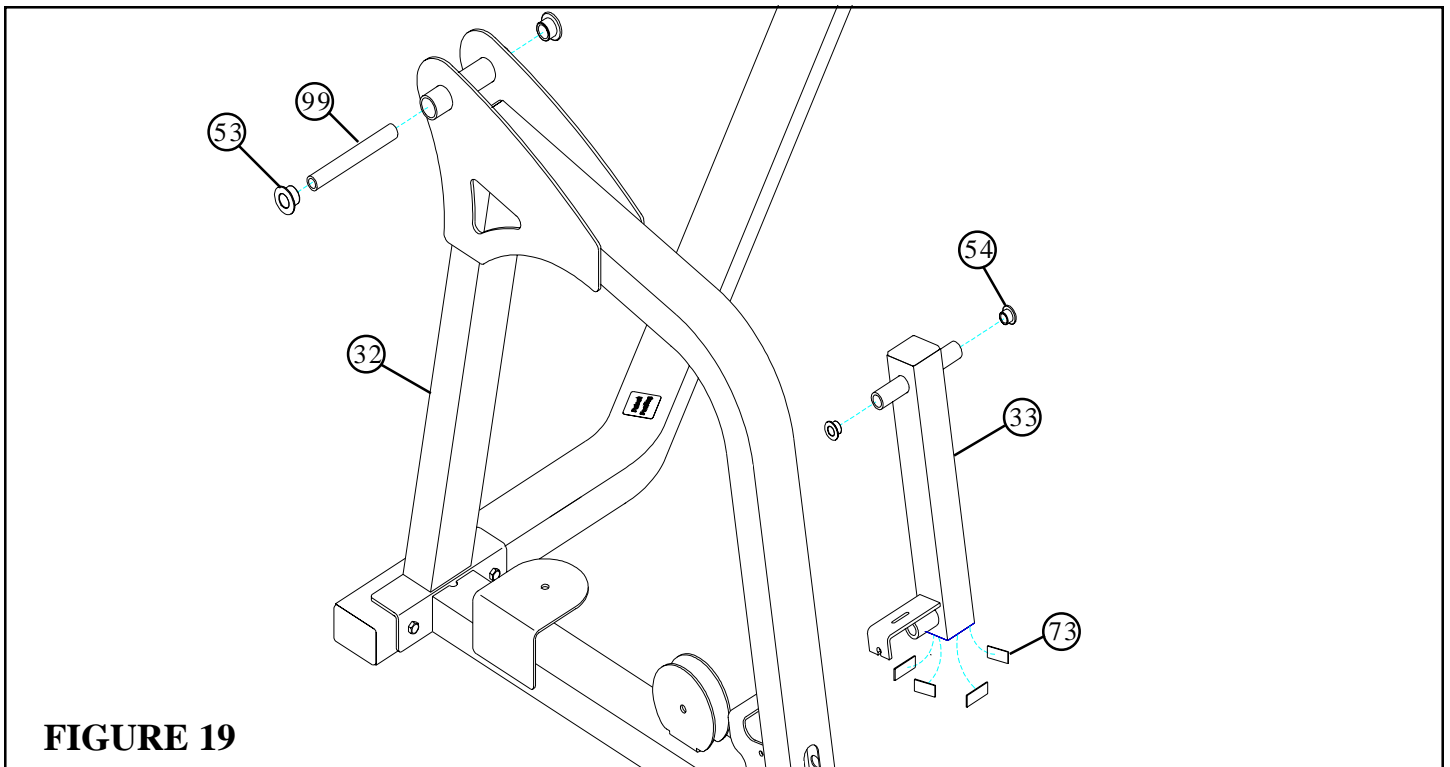

FIGURE 19
- Insert two 3/4" FLANGE BEARINGS (53) and one 3/4" X 6" SHAFT (99) into the tube on the PRESS FRAME (32) as shown.
- Insert two 1/2" FLANGE BEARINGS (54) into the PRESS EXTERIOR ADJUST (33) as shown in FIGURE 19.
- Apply four PARAGLIDES (73) to the **INSIDE** of the tube on the EXTERIOR PRESS ADJUST (33) as shown in FIGURE 19.